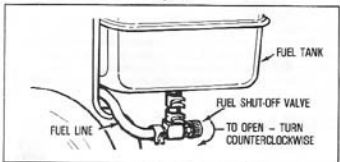

Figure 4
- E. Be sure FUEL SHUT-OFF VALVE (if so equipped) is open (see Figure 4).
A. Close **FUEL SHUT-OFF VALVE** (if so equipped). (See Figure 4).